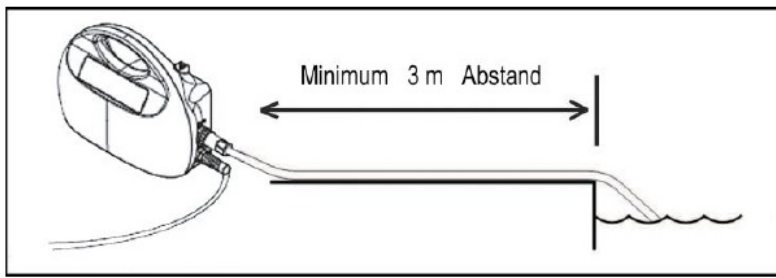
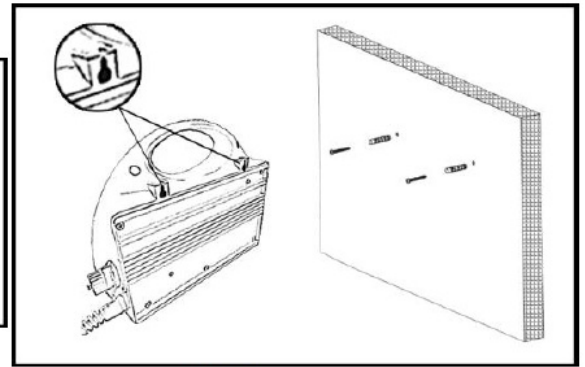

Fig. 1
Fig. 2
- The switch box must be mounted on a wall, fence, post, shed or on a level and solid surface, at a safe distance of at least 3 metres from the edge of the pool (Fig. 1). Use the eyelets provided on the back for this purpose (Fig. 2).